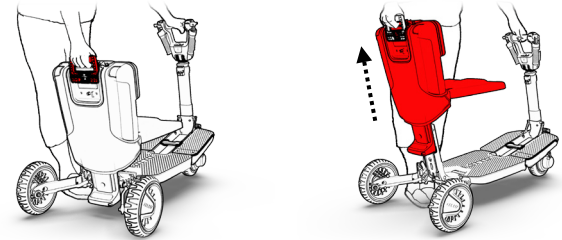

Figure 15
12. Continue using the handle for pulling up the chair until it clicks and locks in place (see Figure 15).